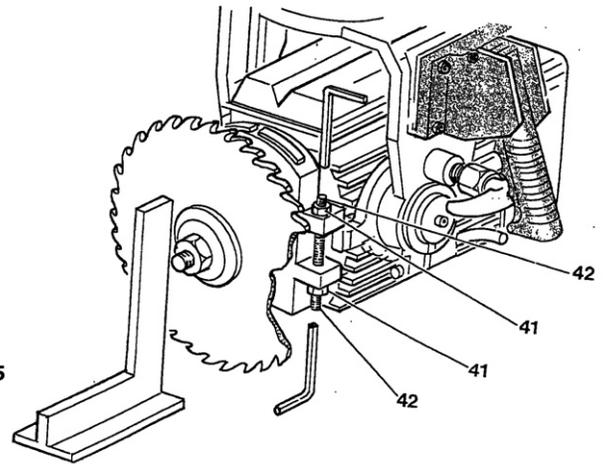

Fig. 15
Now, using a square make sure that the blade is perfectly perpendicular with the table (see fig. 15). If this should not be so, work on the nuts (41) and dowels (42) with the 13mm open wrench and the 5 mm. set screw wrench.